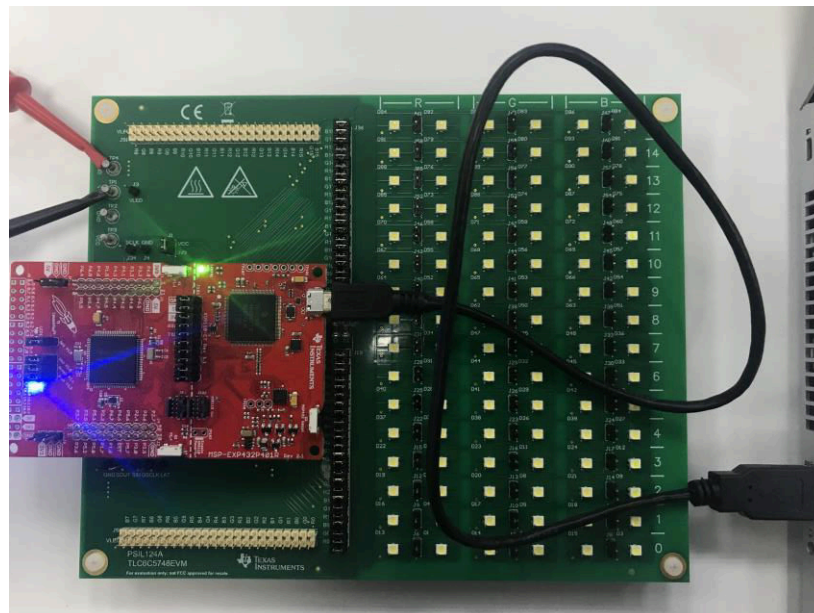

Figure 2-8. Connect MCU Launchpad to PC
Step 4: The Launchpad is connected to the PC as shown in Figure 2-8 using the Micro USB cable provided in Launchpad kit.